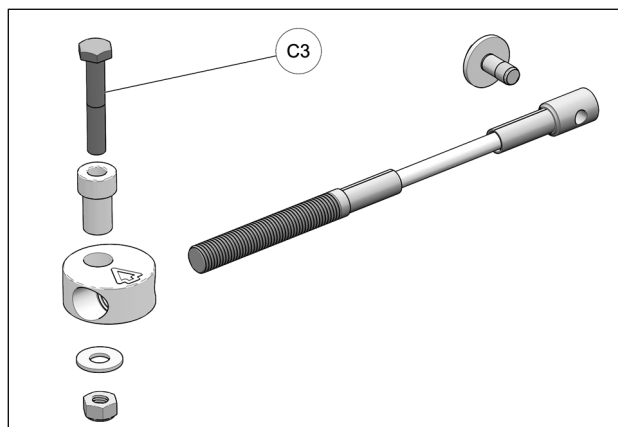

Fig. 20
11. Set aside bolt M10x60 mm (C3) included in the Steering Limiter assembly. See Fig. 20